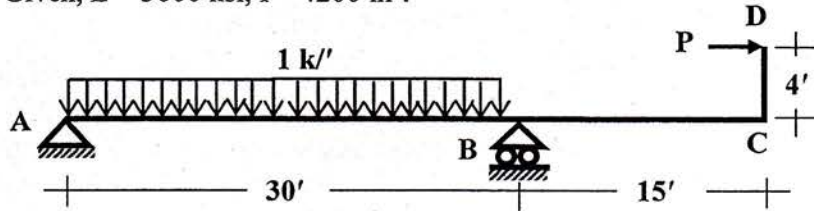

Figure 5
- [5] Use the Virtual Work Method to determine the value of P to cause $\Delta_{C(\downarrow)} = 2''$ in the beam shown in Figure 5. Given, $E = 3600 \text{ ksi}$, $I = 4200 \text{ in}^4$. (20)